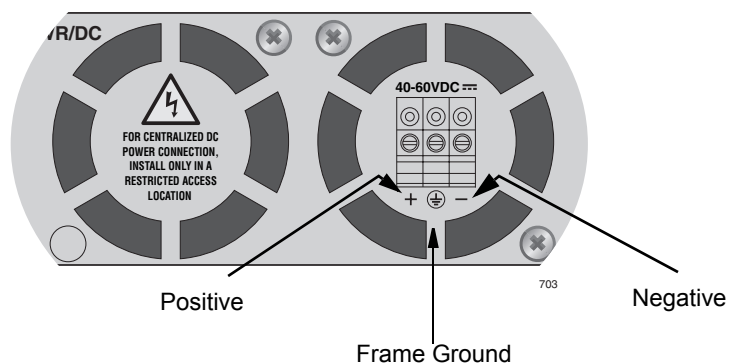

Figure 40. Positive, Frame Ground, and Negative Terminals
2. On the rear side of the DC power supply is a DC terminal block. Starting from the left side of the terminal block, identify the **positive**, **frame ground**, and **negative** terminals using the diagram adjacent to the terminal block as shown in Figure 40.
The Main Menu is displayed, as shown in Figure 40 on page 30.